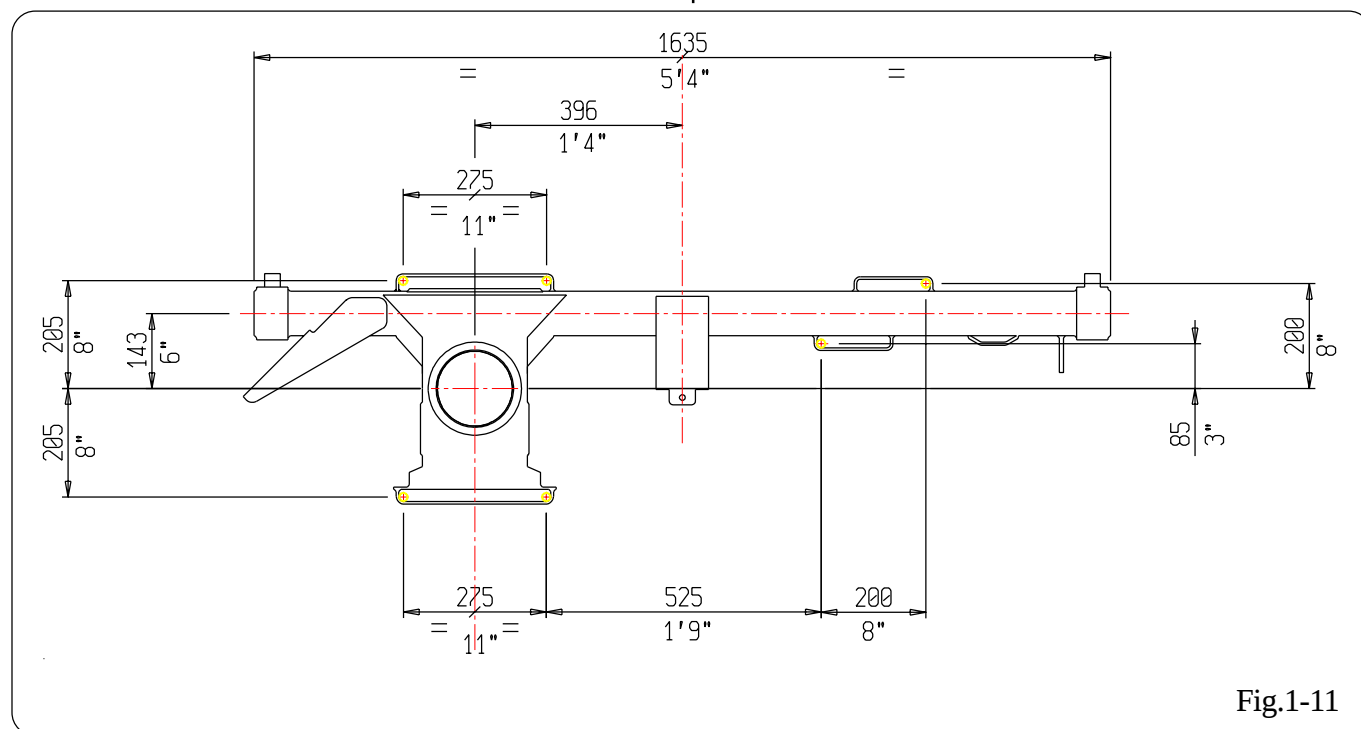

Fig.1-11
1.8.3 DIMENSIONI DI ANCORAGGIO SERIE 2 (Fig.1-11)
1.8.3 MOUNTING DIMENSIONS SERIE 2 (Fig. 1-11)